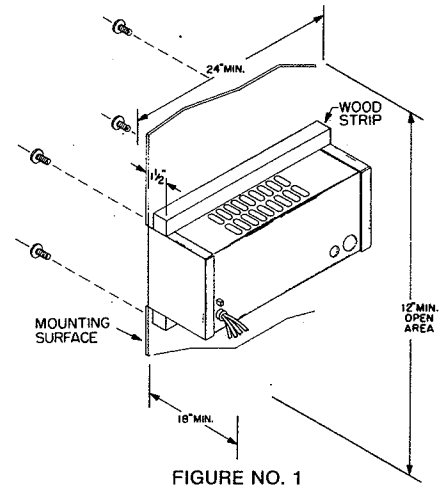

FIGURE NO. 1
1. The Power Pack should be installed as depicted in Figure No. 1. to ensure proper operation and cooling. In addition to the mounting holes, four .250" holes must be drilled into the mounting surface to accomodate the screws which secure the front cover to the Power Pack. Two wood strips, cut to the length of the Power Pack (13.375" inches) should be positioned behind the mounting surface. Wood screws are inserted through the case and mounting surface into the wood strips (see Fig. 1). The combined thickness of the mounting surface and wood strips should not exceed 1.5 inches. **CAUTION: IT MUST NOT BE INSTALLED IN COMPARTMENTS OR LOCATIONS CONTAINING BATTERIES OR FLAMMABLE MATERIAL (PARTICULARLY LIQUIDS SUCH AS GASOLINE OR KEROSENE).**